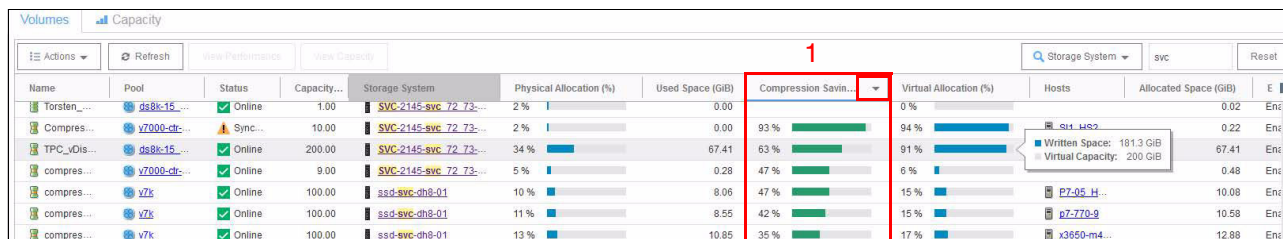

Figure 2-55 Volumes sorted by compression savings
When using compression on any of the Storwize or SAN Volume Controllers (SVC) devices, always evaluate whether compression savings are worth the effect of compression on the system performance. To get a quick view of the compression savings, sort the volumes in Spectrum Control by compression savings in descending order (1), as shown in Figure 2-55.